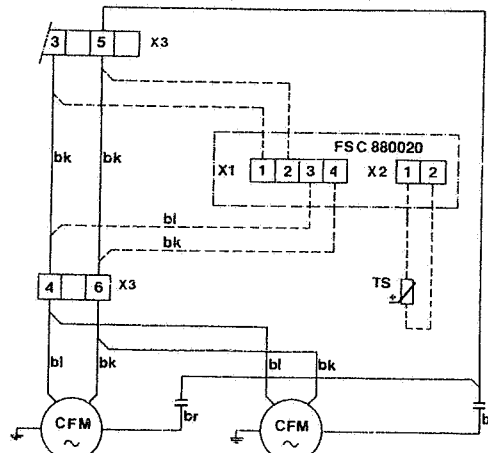

fig 5
B. Type KNR 3 - 4 - 5. (fig.5)
B. Types KNR 3-4-5 (fig.5)
B. Modèles KNR 3-4-5 (fig.5)
B. Typ KNR 3-4-5 (fig. 5)